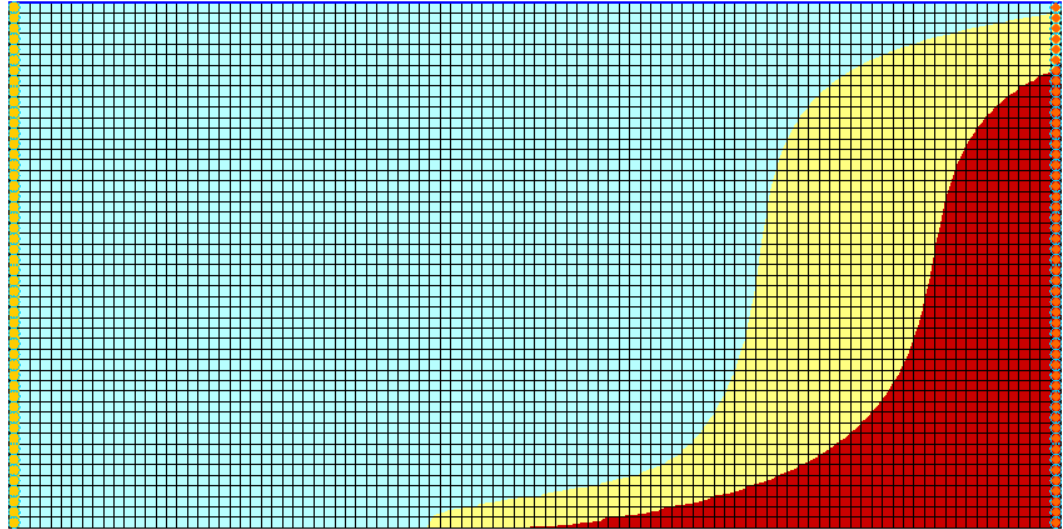

Figure 4 Salt concentration at time step 16 in case1
1. View time step 16 (value of “8000”) in the “ Salt” dataset in “ case1 (MT3DMS)” (Figure 4).